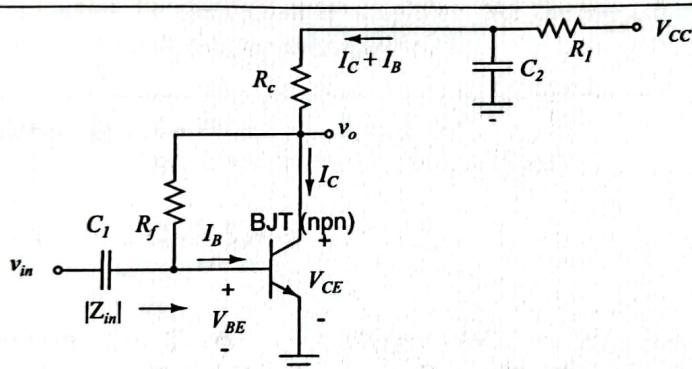

Figure 1: Schematic of an RF amplifier using a BJT.
- An RF amplifier can be built using a BJT. Refer to the circuit given in Fig. 1. TRC-11 uses two of such amplifiers. The values of the resistors and capacitors should be calculated as described below.
1. The first RF amplifier circuit to be built is the first IF amplifier. A schematic diagram of the first IF amplifier is given in Fig. 1. Mount the three leads of the transistor Q50